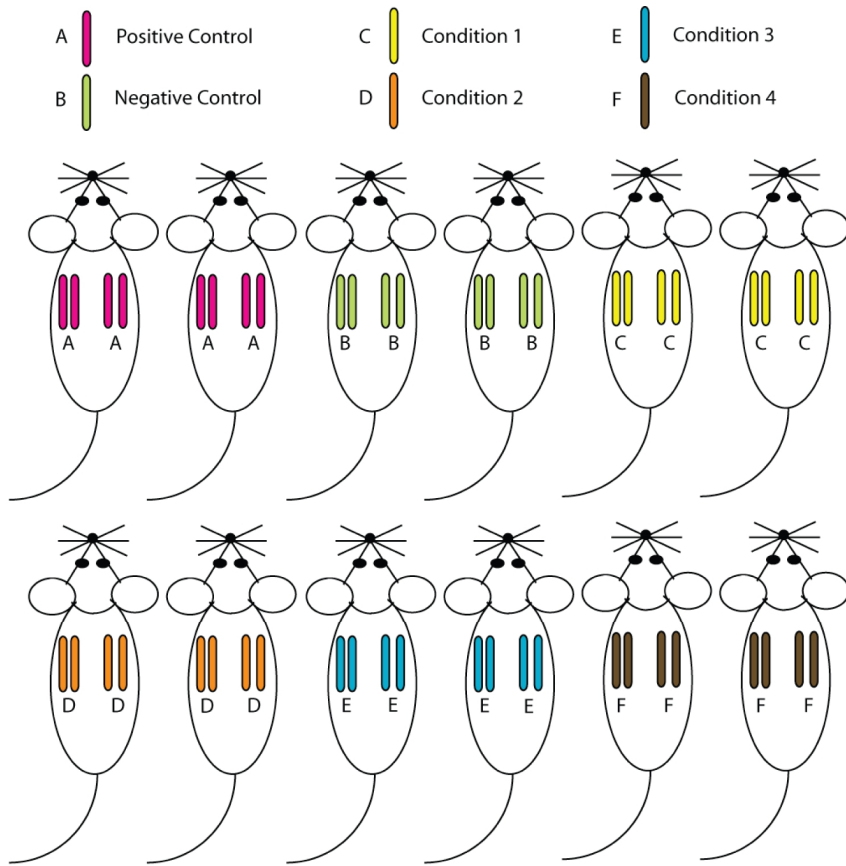

Figure 6. Recommended distribution of angioreactors in mice.
10. Implant angioreactors into dorsal flank of mouse with open end opposite incision; up to 2 angioreactors may be planted on each side for a total of 4 angioreactors per mouse. See Figure 5 for implantation procedure and closure of the incision. Distribute angioreactors with like pairs in each mouse; see Figure 6 for recommended distribution.
3. Carefully remove the bottom cap of the angioreactors with a razor blade, and using a sterile 200 µl pipette tip, push BME/vessel complex out of angioreactor into the sterile microtube. See Figure 6 for vascularization in DIVAA™ RGF BME plus angiogenic factors.